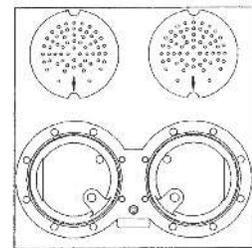

Fig. 1
6. Remove four (4) 3/8" allen head bolts located at top of adapter plate castings.
7. Remove twelve (12) 3/8" hex head bolts attaching bottom valve housing to adapter plate castings.
10. Clean valve housing sump, gasket surface and inside of two (2) adapter plate castings of oil and contaminates.
12. Place new filter plate into each valve housing cavity. Position filter plates in cavities, as shown in Fig. 1, with arrows pointed toward front of valve housing.
14. Torque (16) bolts to 25-30 ft. lbs.